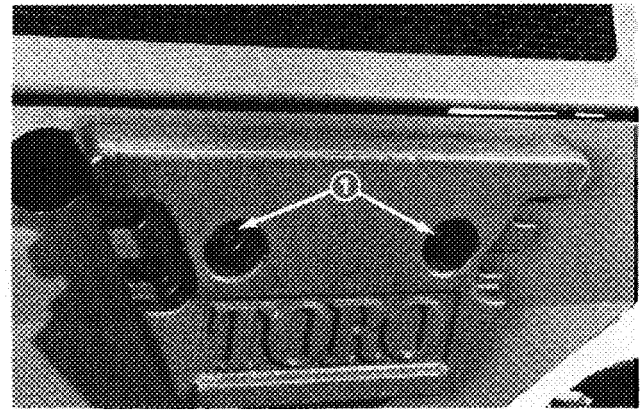

Figure 13
1. Mount rear weights to back of machine with two capscrews, lockwashers, spacers, and nuts (Fig. 13). Spacer must be between weight and chassis. Order kit #25-5780 (includes z-weights and hardware) from your Authorized Toro Distributor.